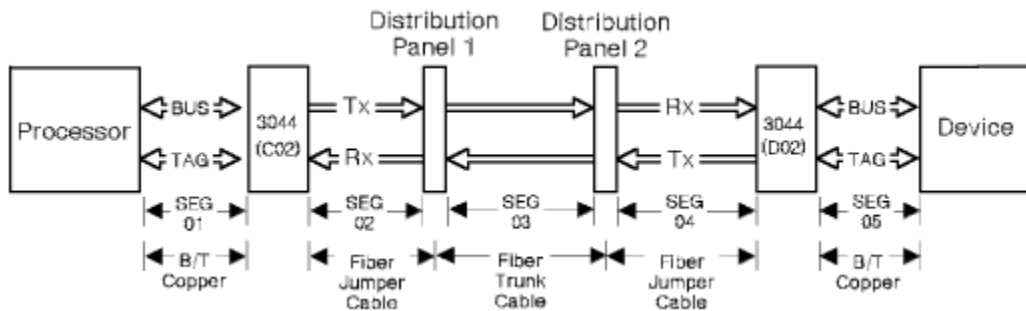

Figure 65. Example of a complex physical link connection
- Complex physical link connection (Figure 65 on page 57)
The following paragraphs list and explain the entries used in the completed *Cable Administration Work Sheet* example shown in Figure 66 on page 59. The work sheet uses the complex physical link connection shown in Figure 65 on page 57 as a basis and includes typical information available for that link.
When comparing Figure 65 on page 57 to the completed work sheet, notice where the information for one link segment ends and the other begins. For example, the column under 3090-12345 ends at the **To Label** entry of 3044-12345, which is the end of link segment 01. Link segment 02 then begins at the top of the next column (3044-98765) and ends at Distribution Panel 1 (labeled DP01C01 DP01C02). Continue down this column and up from the bottom of the next column to determine the trunk information (link segment 03). In the same manner, continue up the same column and down the next column for link segment 04 and 05 information.